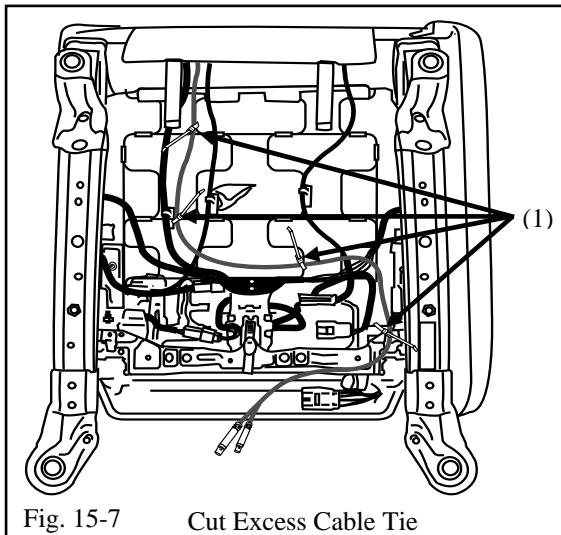

Fig. 15-7 Cut Excess Cable Tie
- (i) Continue routing the cables under and toward the front of the seat, use four 8" cable ties (1) to attach the cables to the underside of each seat. (Fig. 15-7)
-  (j) Reattach protective seat bottom flap. (Fig. 15-7)
- (1) Return the passenger seat to the vehicle and connect the red and green seat cable to the red and green connectors on the extension cable.
- (2) Connect all other seat connectors.
- (3) Reinstall the front and back seat anchor bolts and torque to 27 ft-lbf (37 N-m).
- (4) Return the driver's seat to the vehicle and connect the blue and yellow seat cable to the blue and yellow connectors on the extension cable.
- (5) Connect all other seat connectors
- (6) Reinstall the front and back seat anchor bolts and torque to 27 ft-lbf (37 N-m).